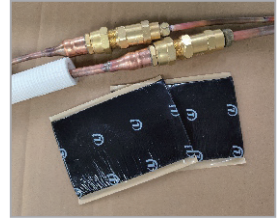

Fig.4
- In order to prevent the quick connector parts from being exposed in the air, the sound deadening pads are supposed to be used during installation, see Fig. 4.